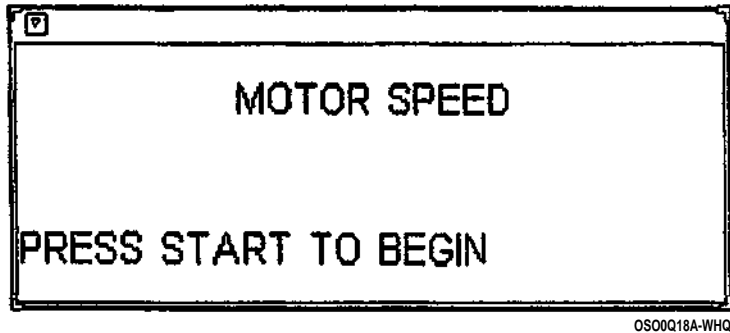

Figure 1. Motor Speed Test Screen
3. Press the ENTER key. The Motor Speed adjustment screen appears (Figure 1).